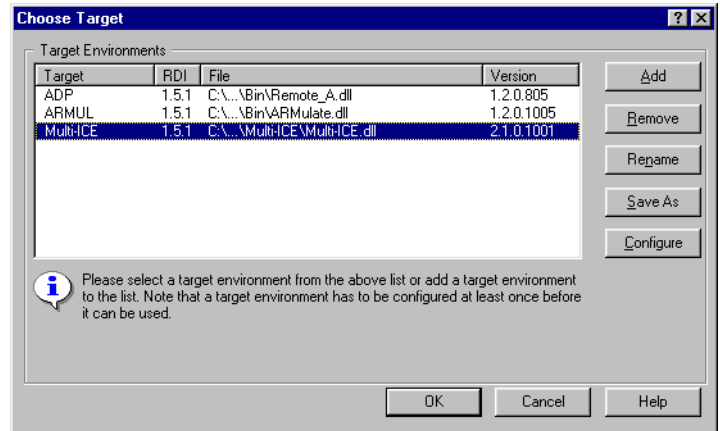

Figure C-1 Debugger Configuration dialog box
2. Select **Options** → **Configure Target** in AXD. This displays the target configuration dialog box shown in Figure C-1 on page C-3.